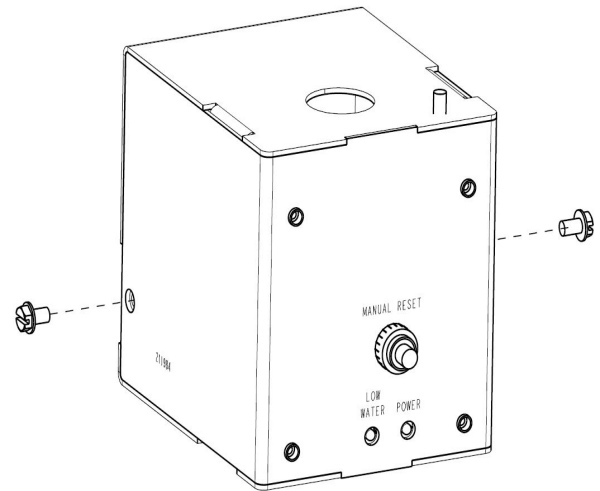

Figure 3
3. Using a flat blade screwdriver loosen the two screws on the e-11M control and separate the cover of the control from the bracket, see **Figure 3**.
4. Using a flat blade screwdriver loosen the two screws on the e-11M control and separate the cover of the control from the bracket, see **Figure 3**.
3. Secure the e-11M control unit by using a flat blade screwdriver to tighten the two screws, See **Figure 3**.